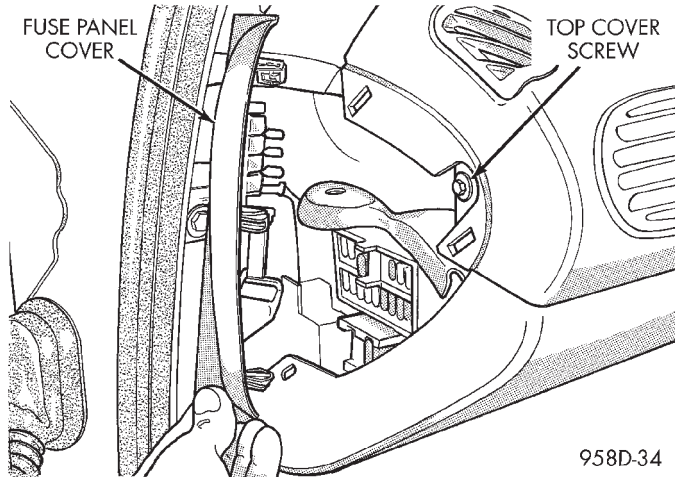

Fig. 12 Instrument Panel Top Cover-Left Side
- (6) Pull cable up and out of the gearshift mechanism.
- (7) Remove fuse panel cover from left end of instrument panel. Remove screw holding end of instrument panel top cover (Fig. 12).